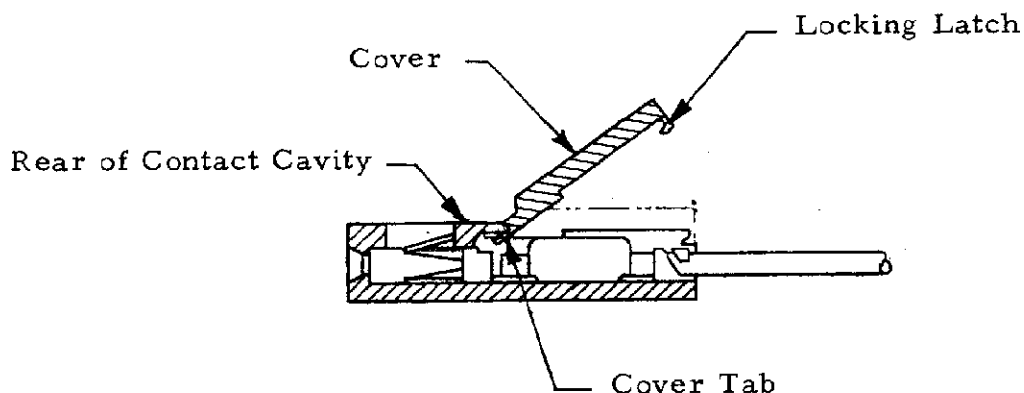

Figure 6
- A. Hold cover at a slight angle to the housing, as indicated in Figure 6, and align cover tabs with rear of contact cavities.